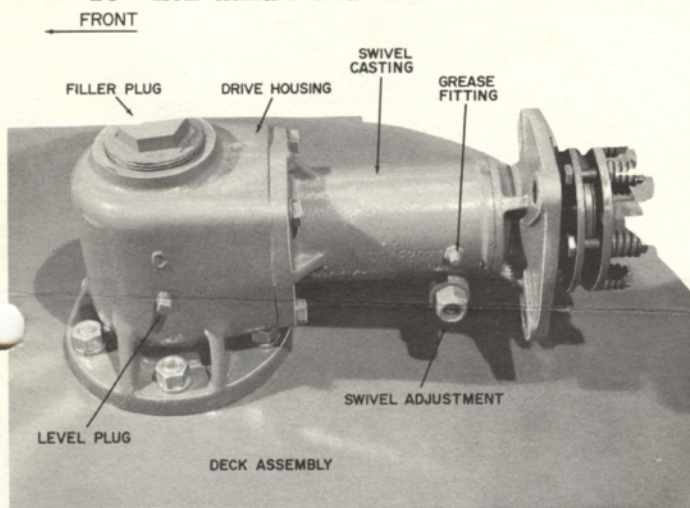

fig 2
1. Remove the filler plug and level plug in fig 2. Fill the drive housing to the oil level plug with SAE 90 gear lubricant. Replace the plugs. Check the level periodically especially if signs of leakage are present.
2. Grease the swivel casting through the grease fitting on the casting with general purpose grease. Add grease until it comes out under the swivel adjustment. Regrease once a season; fig 2.
1. Swivel action of the mower is regulated by the nut and bolt on the swivel casting, fig 2. Loosening allows more swivel action; tightening reduces the action. The swivel action should allow the mower to follow ground contour.